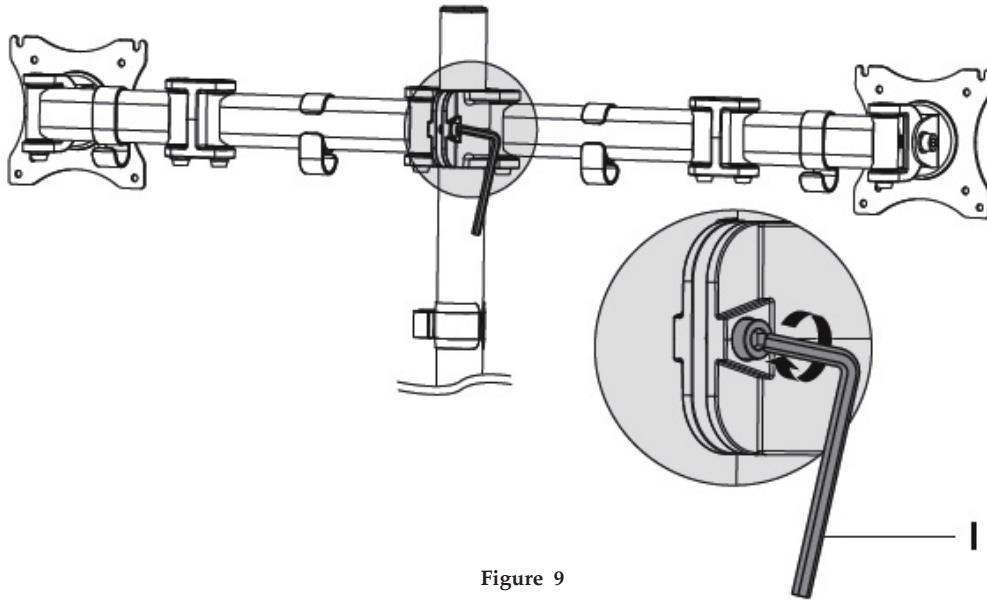

Figure 9
4. Adjust the monitor height. Loosen the clamp bolt using the 5mm Allen Key (I) and move the Vesa Plate with Arm to the desired viewing position. Tighten the clamp bolt to secure the Vesa Plate with Arm, see **Figure 9**.